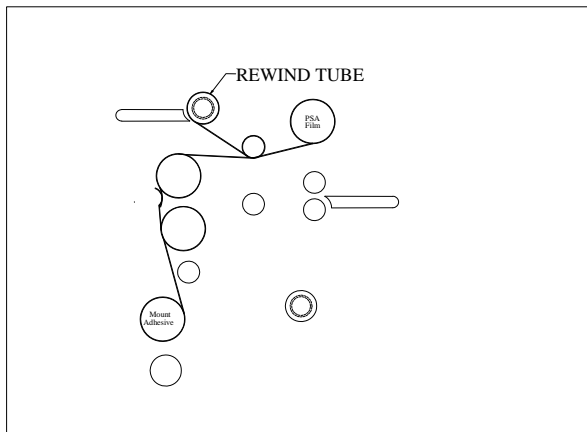

FIGURE 23
6. Pull the mount adhesive up towards the film draped over the upper heat roller (Fig. 23).